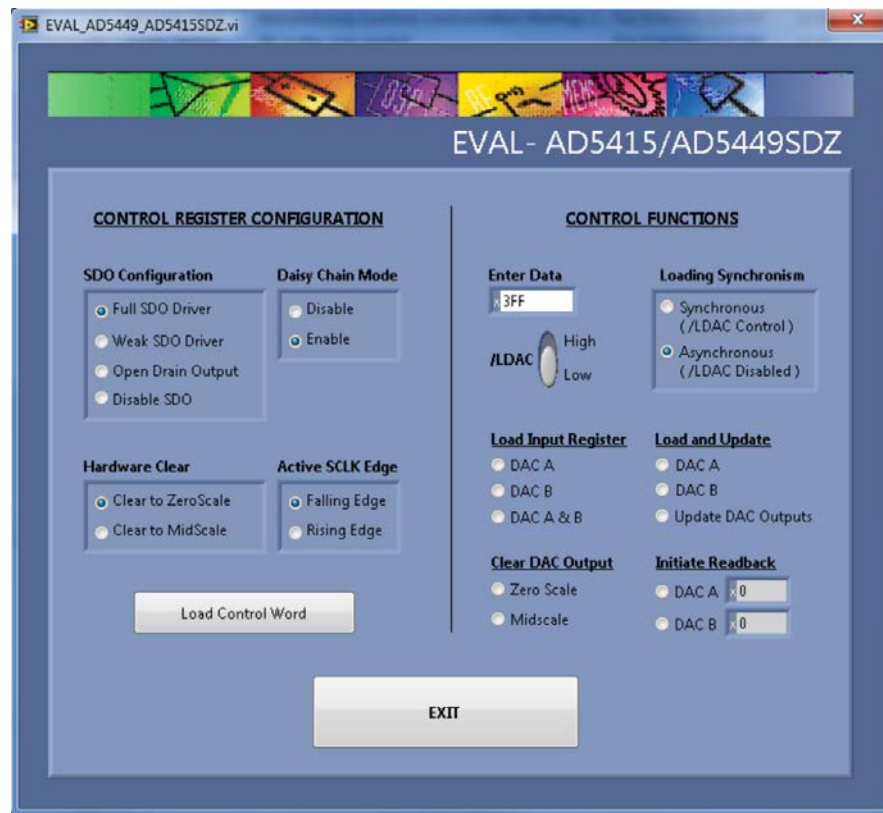

Figure 5. Evaluation Software Window
2. Run the program file from the **Analog Devices** menu. The **EVAL -AD5449/AD5415SDZ** window is displayed, as shown in Figure 5.